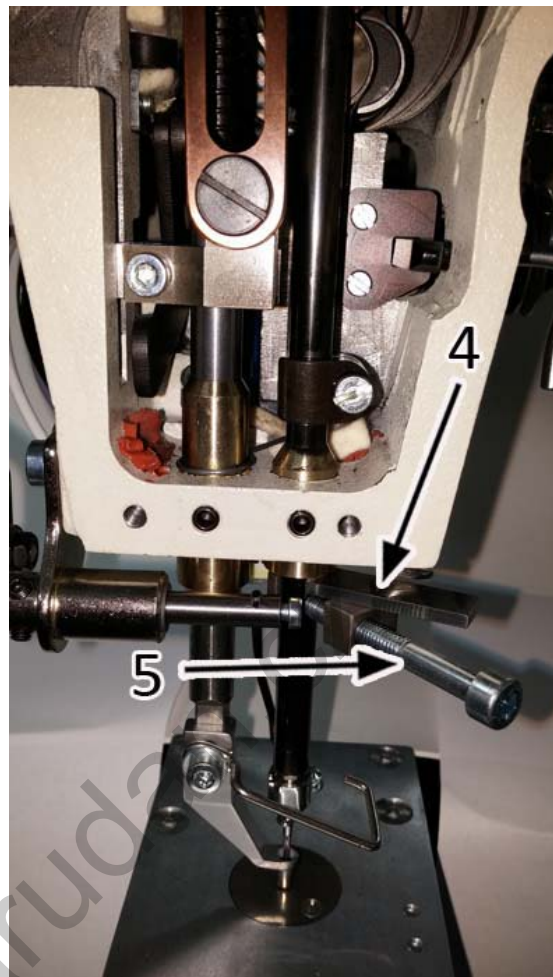

Fig. 19
The hook in connection with the needle must be set so that the edge is in the position of lower relief of needle when the hook is taking the loop of upper thread. Figure 19,21,22,23.
- A. Set the needle into the lower reversal point by turning the hand wheel. Put the stop sleeve (2) on needle bar and insert the scale (4) between stop sleeve and bushing (3), Figure 19. Tighten the screw (5) so that there is no play between the bushing, stop sleeve and scale. The thickness of the scale for rotary hook is 2mm for medium and 2.5mm for heavy materials.
- B. Remove the scale (4) and pull the scale (2) onto the bushing (3) by turning the hand wheel.